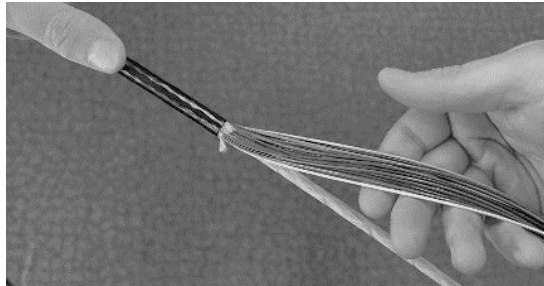

Figure 9 - Unwrap the buffer tubes
4.10 Carefully unwrap the 8 buffer tubes from each other and remove any threads from between the buffer tubes. (Figure 9)